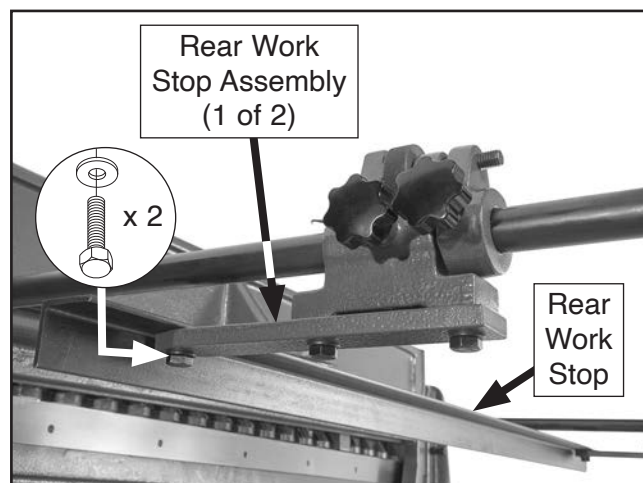

Figure 17. Rear work stop attached to rear work stop assembly.
11. Attach rear work stop to rear work stop assemblies with (2) M10-1.5 x 20 hex bolts and 10mm flat washers, as shown in **Figure 17**.